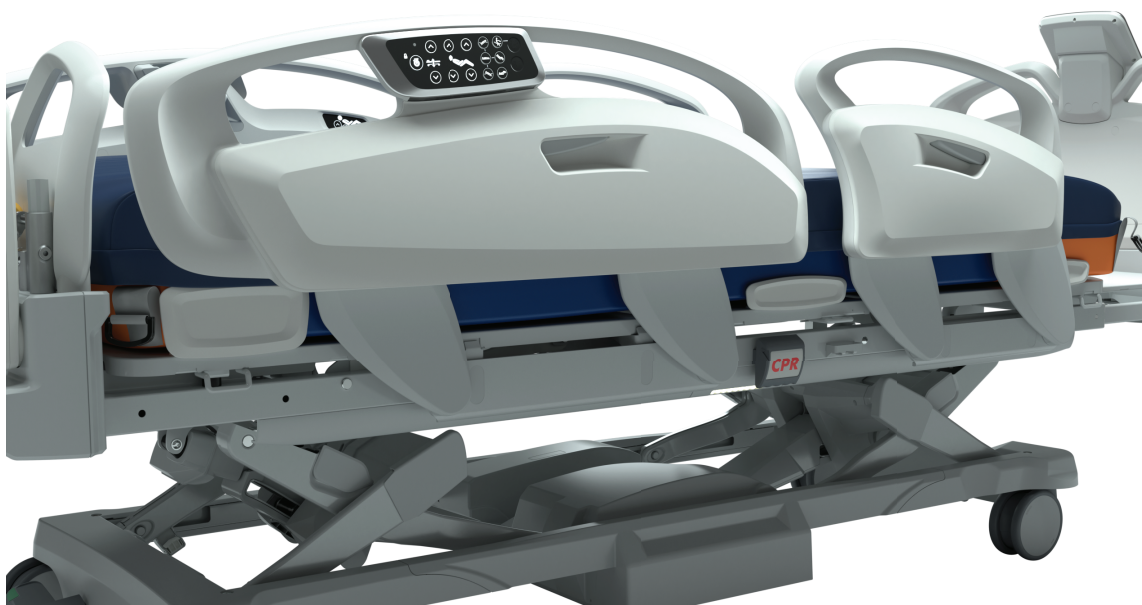

Figure 12 – Siderail highest position
- To raise the siderail to the highest position, press and hold the siderail release (N) (*Product illustration* (page 13)) and rotate the siderail up from either the lowest position or intermediate position (Figure 12).